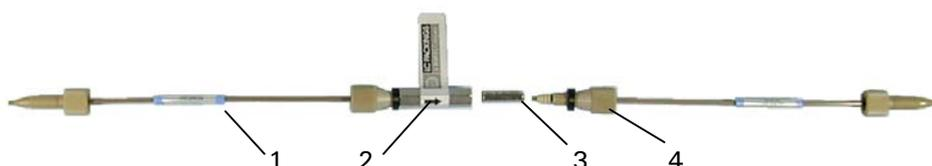

FIGURE B-8. The Trap Column Cartridge System
The trap column cartridge system consists of a cartridge holder (item 2), tubing (item 1) and a set of disposable cartridges (item 3, FIGURE B-8). It is used for concentration of diluted samples in Capillary- or Nano LC. Other typical applications are desalting of proteins and peptides prior to MS analysis and in multidimensional chromatography.